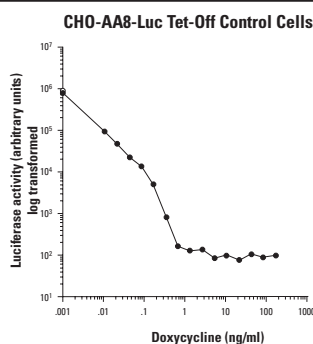

Figure 4. Doxycycline dose-response curve for luciferase expression in the CHO-AA8-Luc Tet-Off Control Cell Line
4. Assay each sample for luciferase activity using any standard luciferase assay. Plot your results and compare to Figure 4, page 8.